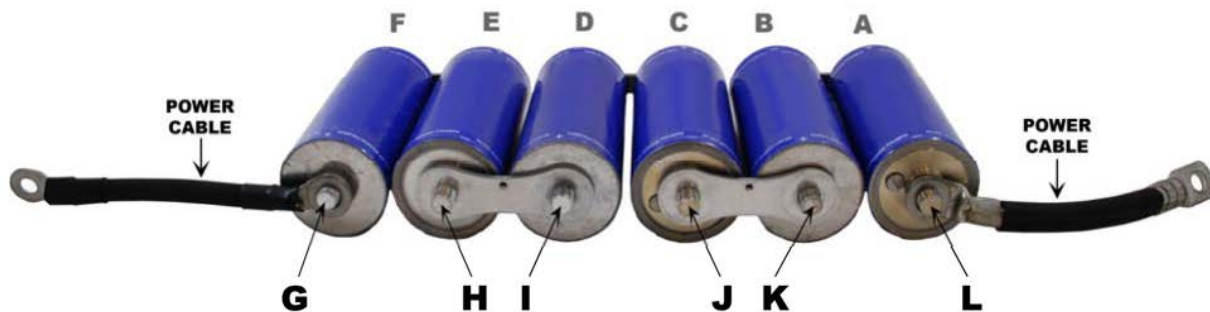

Figure 7
3.2.6 Place lugs attached to power cables (1/0 AWG cables shown in Figure 7) over the remaining two threaded terminals of the cells at the ends of the series and an aluminum washer(s) over each lug. (Figure 7, G and L). It is important to use a lug plus an aluminum washer that together have a combined thickness of 3.2 ± 1.0 mm. This prevents the voltage management boards (which are attached in the following step) from being stressed due to uneven stack up of the elements bolted to the cell.